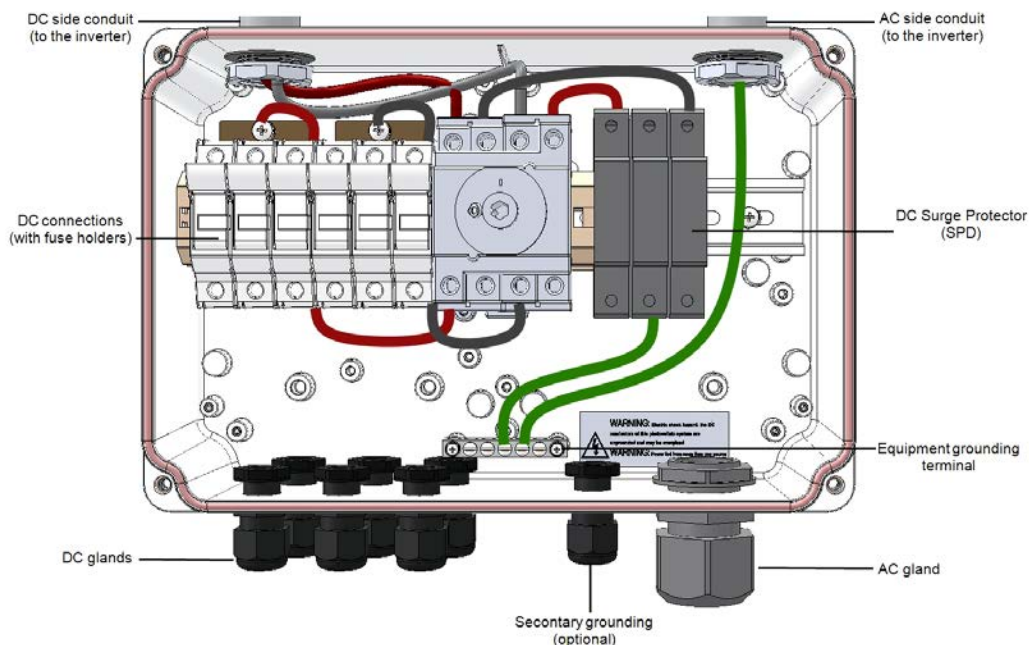

Figure 26: Inside the DC Safety Unit with fuses
6. Open the AC cable gland and insert the cable through the gland (see Figure 26).